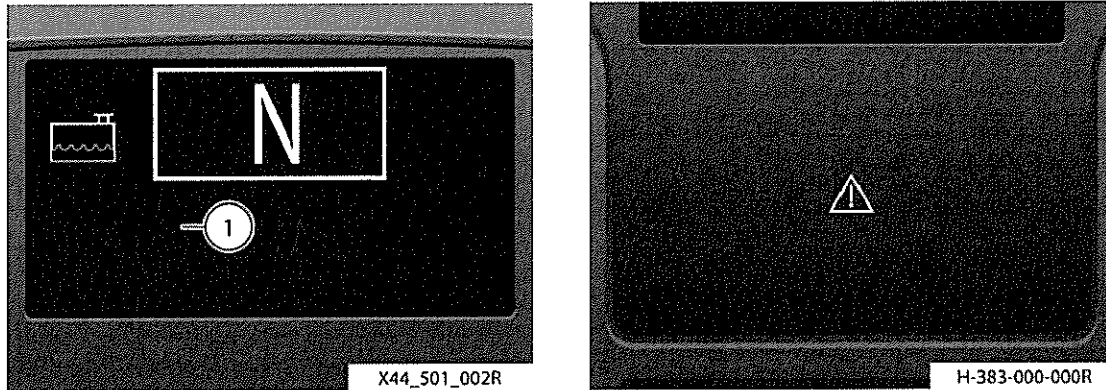

Fig 43 Coolant level too low
161 Refer to Fig 43. If there is not enough coolant in the cooling system, a message (1) appears and the coolant level check lamp comes on. At the same time, the yellow central warning light comes on and an alarm buzzer sounds. Refer to Chapter 1-2.